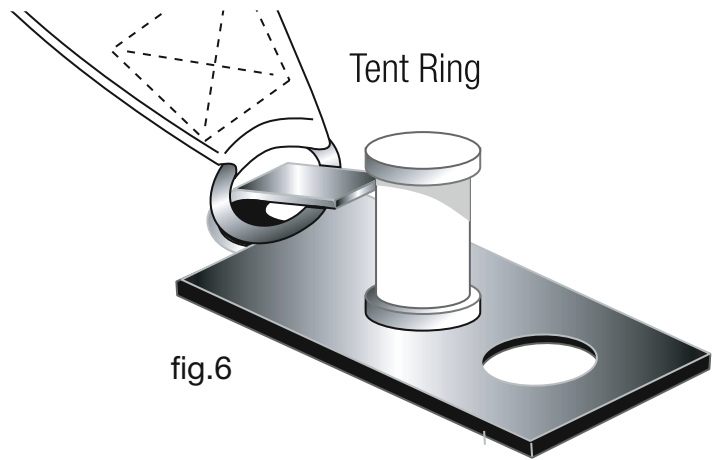

fig.6
9. Attach the canopy rings to their respective stake plate hook. See fig.6
See fig.6